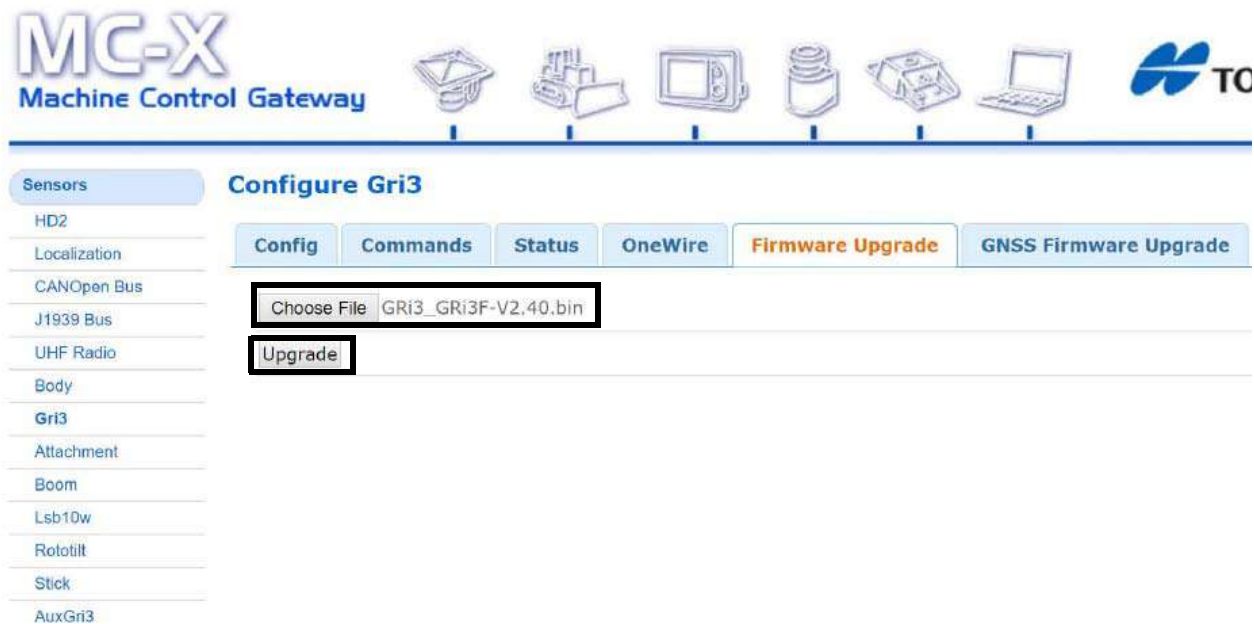

Figure 16. Choose File
3. Select **Choose File** (Figure 16) and navigate to the GR-i3 firmware file (.bin extension).
4. Choose **Upgrade** and the firmware upgrade process should begin (Figure 16).